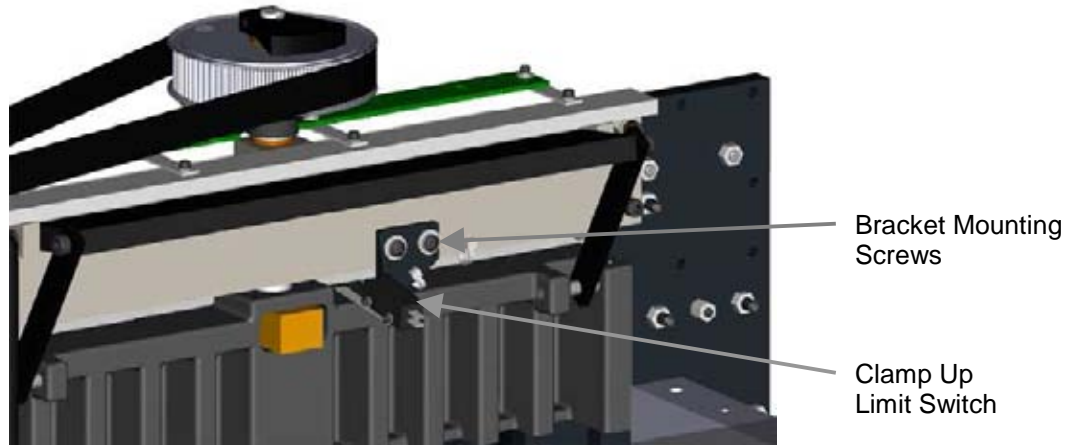

Figure 18
4. Loosen bracket mounting screws (Figure 18), and slide bracket up or down, depending on the type of adjustment needed. Lowering the bracket will lower the “up” position of the clamp, raising the bracket will raise the “up” position of the clamp. Then tighten screws, and also check to make sure the screws mounting the switch to the bracket are tight.